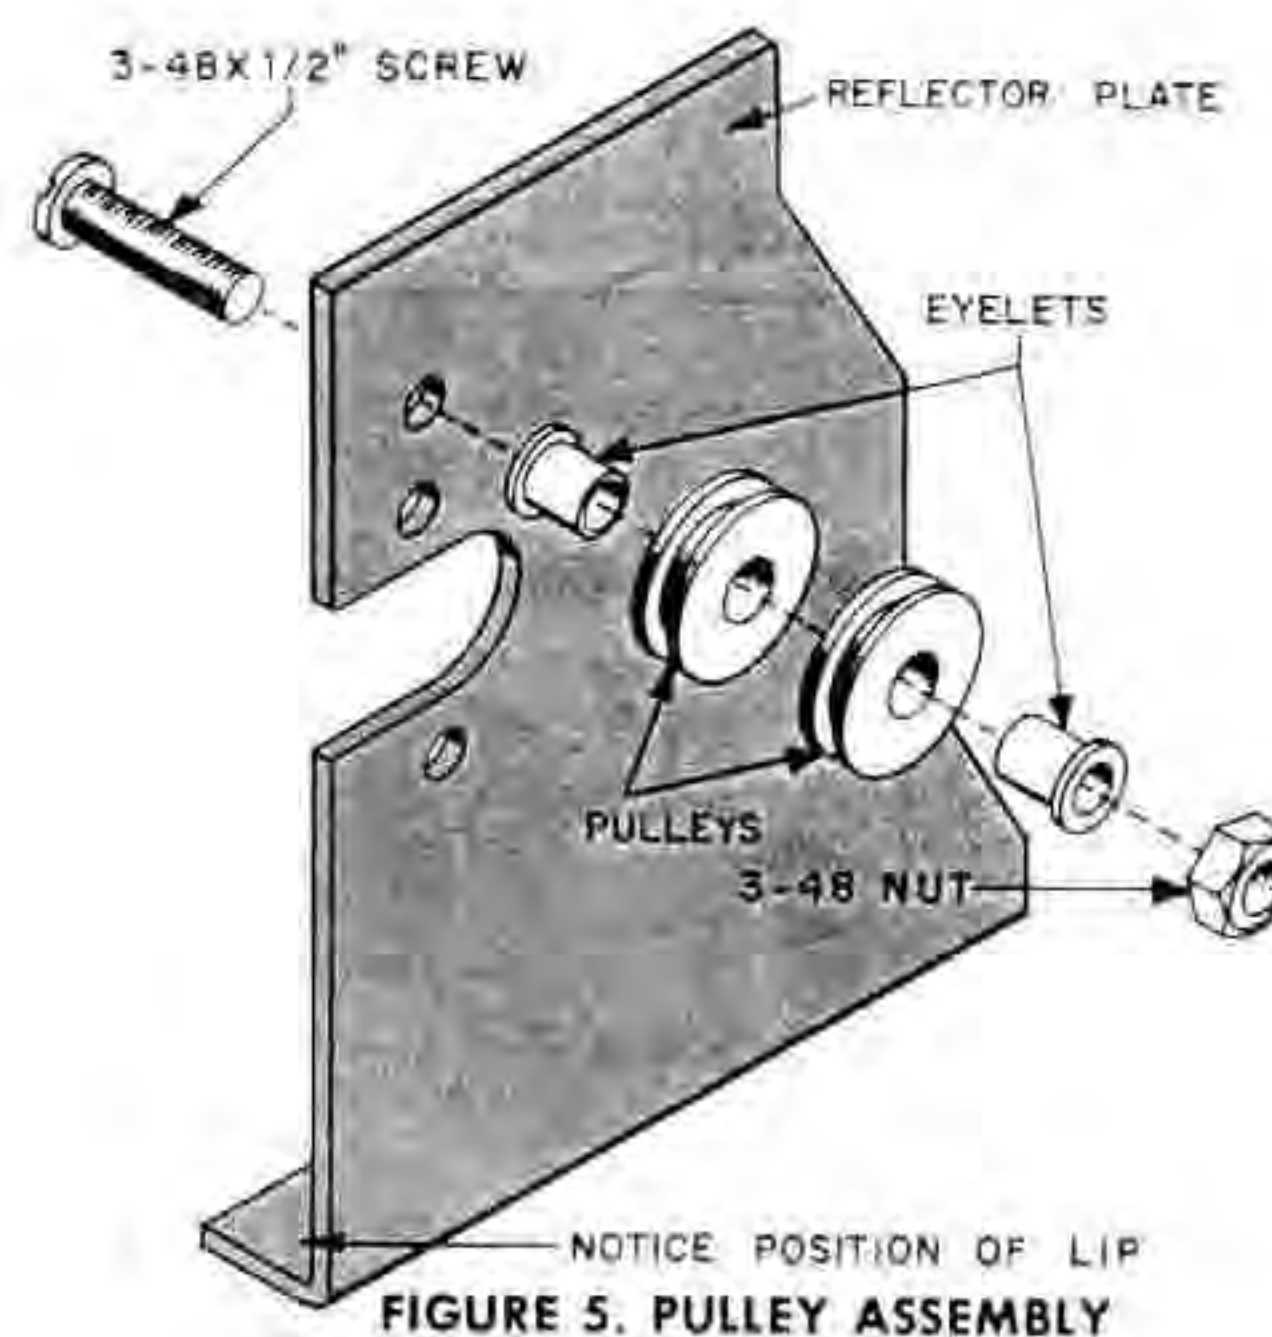

FIGURE 5. PULLEY ASSEMBLY
SEE FIGURE 17 ON A SEPARATE SHEET AND FIGURE 5.
- ☑ 2 small plastic pulleys and 2 eyelets. Mount on the reflector plate as shown in Figure 5, with a 3-48 screw and nut. (The 3-48 screws are the thinnest in the kit). Make sure the eyelets are correctly positioned.